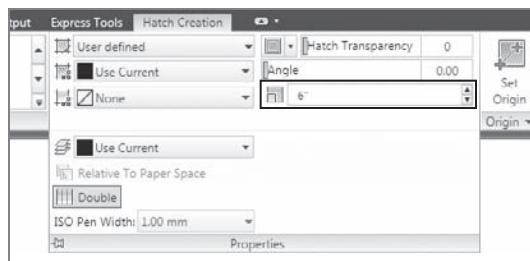

FIGURE 11.18 Defining the hatch pattern
6. In the Hatch Spacing text box, change 1" (1) to 9" (229). Next, expand the Properties panel and click the Double button (see Figure 11.18)